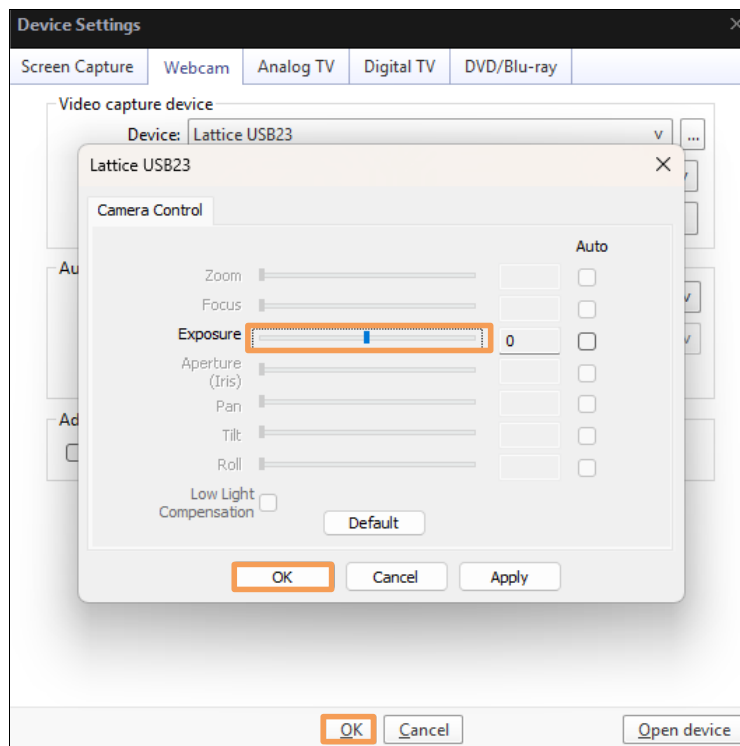

Figure 7.12. Camera Control Menu in PotPlayer 3
6. (Optional) In the **Camera Control** menu, adjust exposure using the slider. Then, click **OK** to confirm (Figure 7.12).